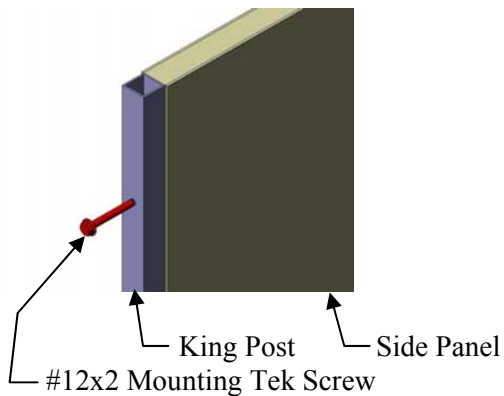

Figure 13
1. Attach a King Post to the first Side Panel on the far left using 2" Self-Drilling Tek Screws through the pre-drilled holes (**Figure 13**). The King Post should always mount to the shorter front end of the Side Panel.